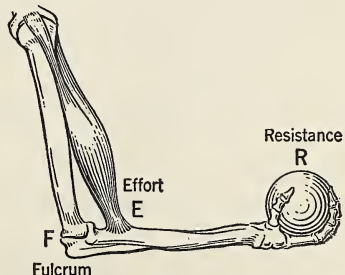
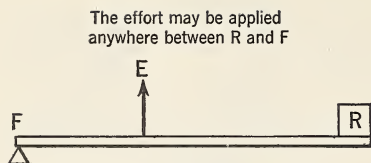

FIG. 244. The forearm is a lever that is much used to gain speed.
FIG. 245. The third-class lever.
3. When we lift a weight on the hand, we use the forearm as a *third-class* lever. The fulcrum is at the elbow. The resistance is at the other end of the lever, on the hand, and the tendons attached to the bones of the forearm act as the effort. (See Fig. 244.) This lever differs from the second-class lever in one way only. The positions of the effort and resistance have been interchanged. (See Fig. 245.) The resistance arm is longer than the effort arm; hence the resistance must move faster than the effort. Such a lever is used to gain speed. Of course we gain speed by sacrificing force. A fork, a shovel, or a broom may be used as a third-class lever; sometimes they are used as first-class levers. We find it very hard to open a door by pushing near the hinge. The resistance is *concentrated at the center of gravity* of the door, and we have been using a third-class lever. The door opens much more easily when we push near the other edge of the door, using a second-class lever, but the hand must move farther.